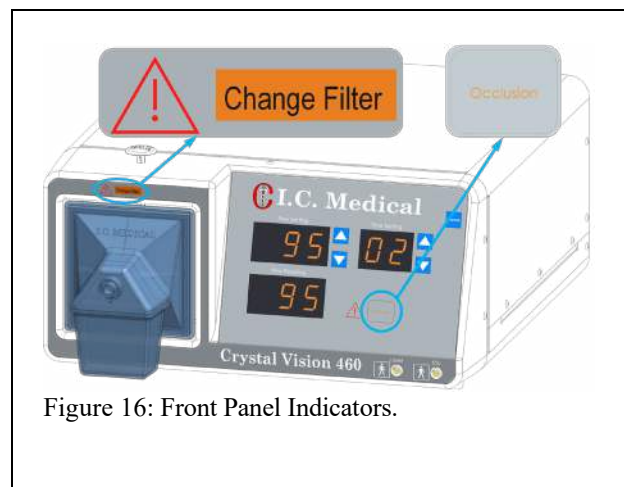

Figure 16: Front Panel Indicators.
8. **CHANGE FILTER** indicator is located above filter (Figure 16). It illuminates when there is a reduced flow into the **CRYSTAL VISION®**. The **SAFEGUARD BLUE®** Hydrophobic ULPA Filter with Built-in Fluid Trap should be changed when this light first illuminates. Do not attempt to clean or re-use the **SAFEGUARD BLUE®** Hydrophobic ULPA Filter with Built-in Fluid Trap . Dispose of the **SAFEGUARD BLUE®** Hydrophobic ULPA Filter with Built-in Fluid Trap according to your institution's biological waste protocol. This indicator will also come ON when there is a total occlusion. If the **OCCLUSION** indicator is also lit, be sure to clear the obstruction that caused it first and then check the **CHANGE FILTER** indicator. If it is still illuminated and the **OCCLUSION** indicator is not, then the **SAFEGUARD BLUE®** Hydrophobic ULPA Filter with Built-in Fluid Trap needs to be changed.
9. **OCCLUSION** indicates that flow into the **CRYSTAL VISION®** has stopped (Figure 16). The **CHANGE FILTER** light will also come ON at this time. The operator should check for kinked tubing, stopcocks that are turned OFF, clogged insufflator, use by date Large Coconut Charcoal Output Filter, or a completely clogged or full fluid trap in the **SAFEGUARD BLUE®** Hydrophobic ULPA Filter with Built-in Fluid Trap. In order to prevent pump failure, the **CRYSTAL VISION®** pump will not activate when this lamp is illuminated.